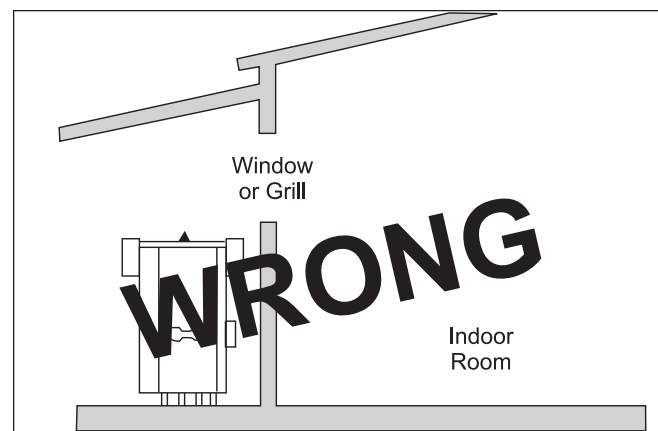

Figure 4. Incorrect Outdoor Installation.
2. Do not locate the heater in an enclosure or wall recess. Avoid location where wind deflection off structures might cause down draft. When such wind conditions are possible, locate the heater at least three (3) feet from the structures.
3. Never install the heater under any kind of roof overhang. Do not locate the heater below or adjacent to any doors, windows, louvers, grills, etc. which communicate in any way with an inhabited area of a building. Even though such communication might be through another structure such as a garage or utility room (see Figure 4).